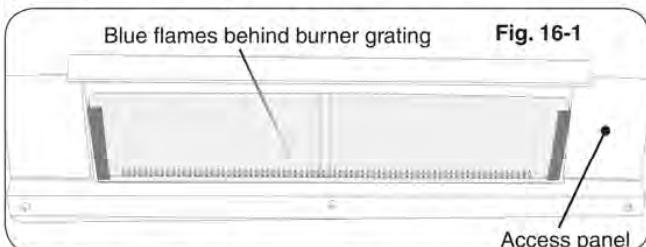

Fig. 16-1
3. Continue adjustment until the flames appear to touch the burner ports, burning fairly steady, consistently, and almost entirely blue with some light-yellow tips (see Fig. 16-1), then retighten the backburner air shutter adjustment screw.